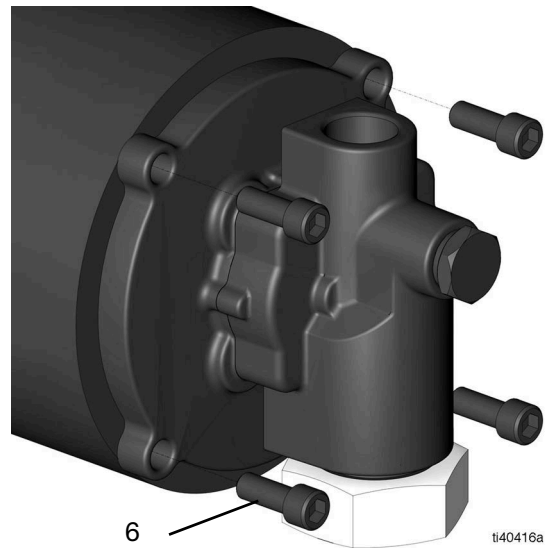

FIG. 3
5. Remove the four Allen screws (6) using an 5/16 in. (8 mm) hex wrench (FIG. 3).
- Place and tighten the four Allen screws (6) using an 5/16 in. (8 mm) hex wrench (Torque 20 ft-lbs, 27.1 N•m) (see FIG. 3).